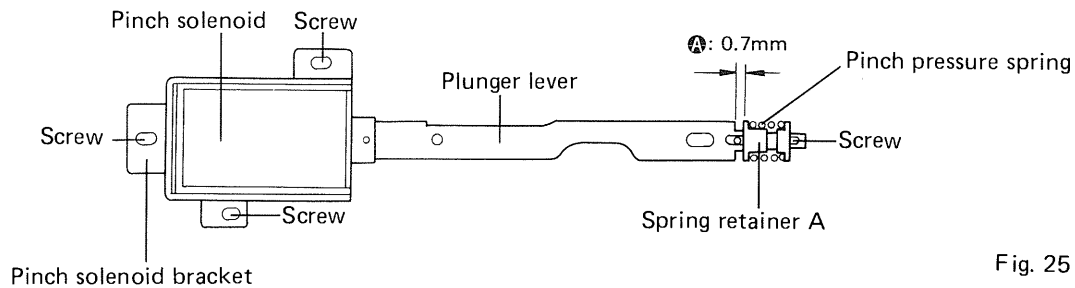

Fig. 25
1. Playback at a set tape speed of 19cm/s and confirm that A of the pinch pressure spring shown in Fig. 25 is within 0.7mm.